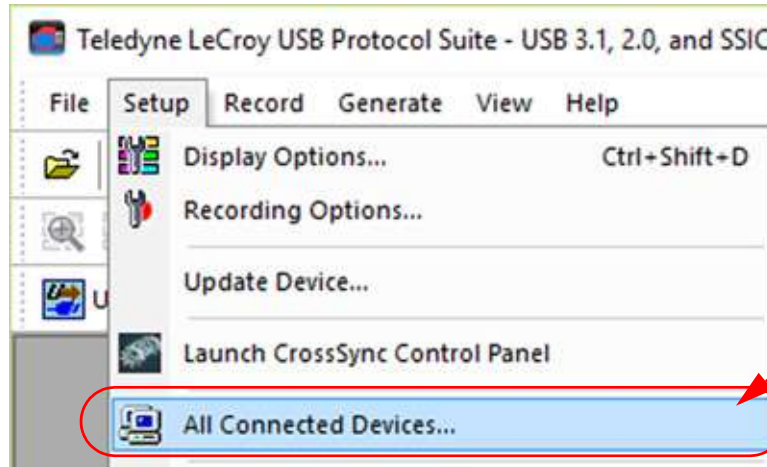

Figure 3.26: Setup: All Connected Devices
3. After the analyzer has initialized, Start the USB Protocol Suite software and select "Setup -> All Connected Devices". See Figure 3.26 on page 130.